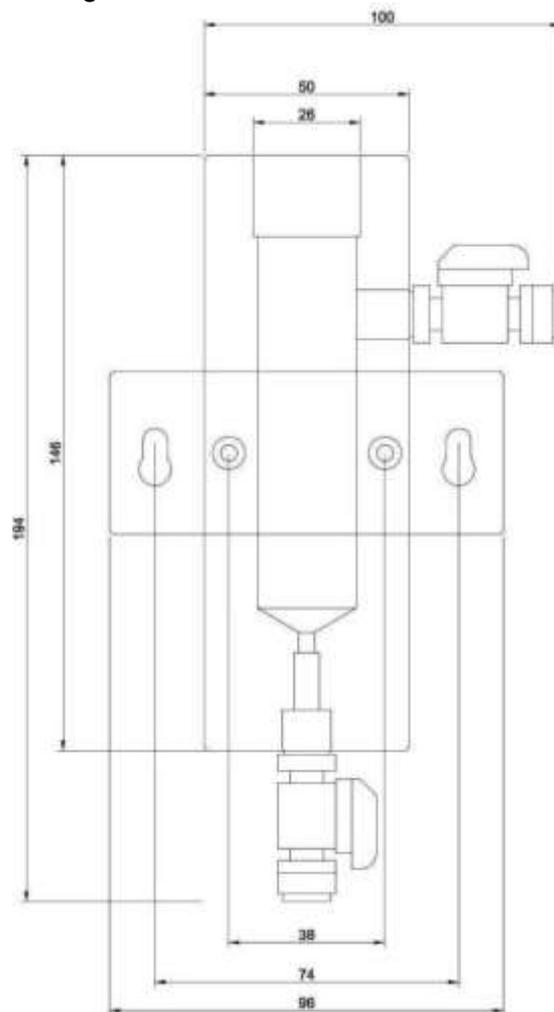

Fig.2 Flow cell dimensions
- (1) Fix the flow cell on the wall or panel with screws;
- (2) Screw the residual chlorine sensor into the flow tank;
- (3) 8mm water pipe is used to connect to the water inlet and outlet of the circulation tank.
- (4) Refer to Fig. 2 for dimension drawing of flow cell